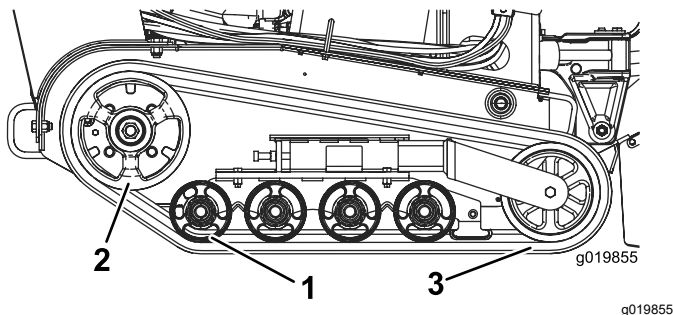

Figure 45
Important: Ensure that you fully clean the road wheels and the drive wheel (Figure 45). The road wheels should rotate freely when clean.
8. Beginning at the drive wheel, coil the new track around the wheel, ensuring that the lugs on the track fit between the spacers on the wheel (Figure 45).
9. Push the track under and between the rear and center road wheels (Figure 45).